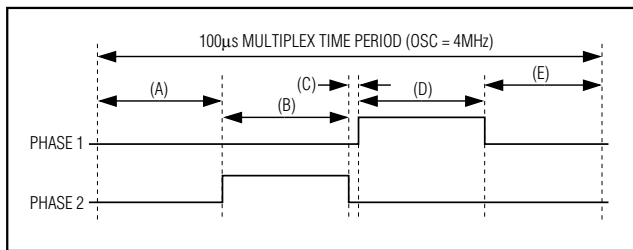

Figure 14. Filament Bridge Driver Timing Waveforms
The waveform generation uses PWM to set the effective RMS voltage across the filament, as a fraction of the external supply voltage (Figure 14) (Table 36). The filament switching frequency is synchronized to the multiplex scan clock, eliminating beating artifacts due to differing filament and multiplex frequencies.
The minimum commutation time, shown at (C) in Figure 14, is set by $(2/\text{OSC})s$ (500ns when $\text{OSC} = 4\text{MHz}$) to ensure that shoot-through currents cannot flow during phase reversal. Otherwise, the duty cycle of the bridge (total on time: total time) sets the RMS voltage across the filament. This technique provides a low-cost AC filament supply when using a regulated supply higher than the RMS voltage rating of the filament.